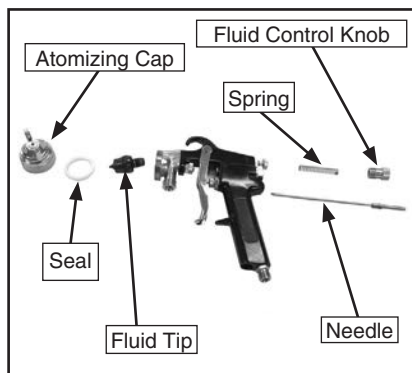

Figure 11. Disassembly for cleaning.
5. Unscrew the atomizing cap and the fluid tip. The fully disassembled gun should look like Figure 11.